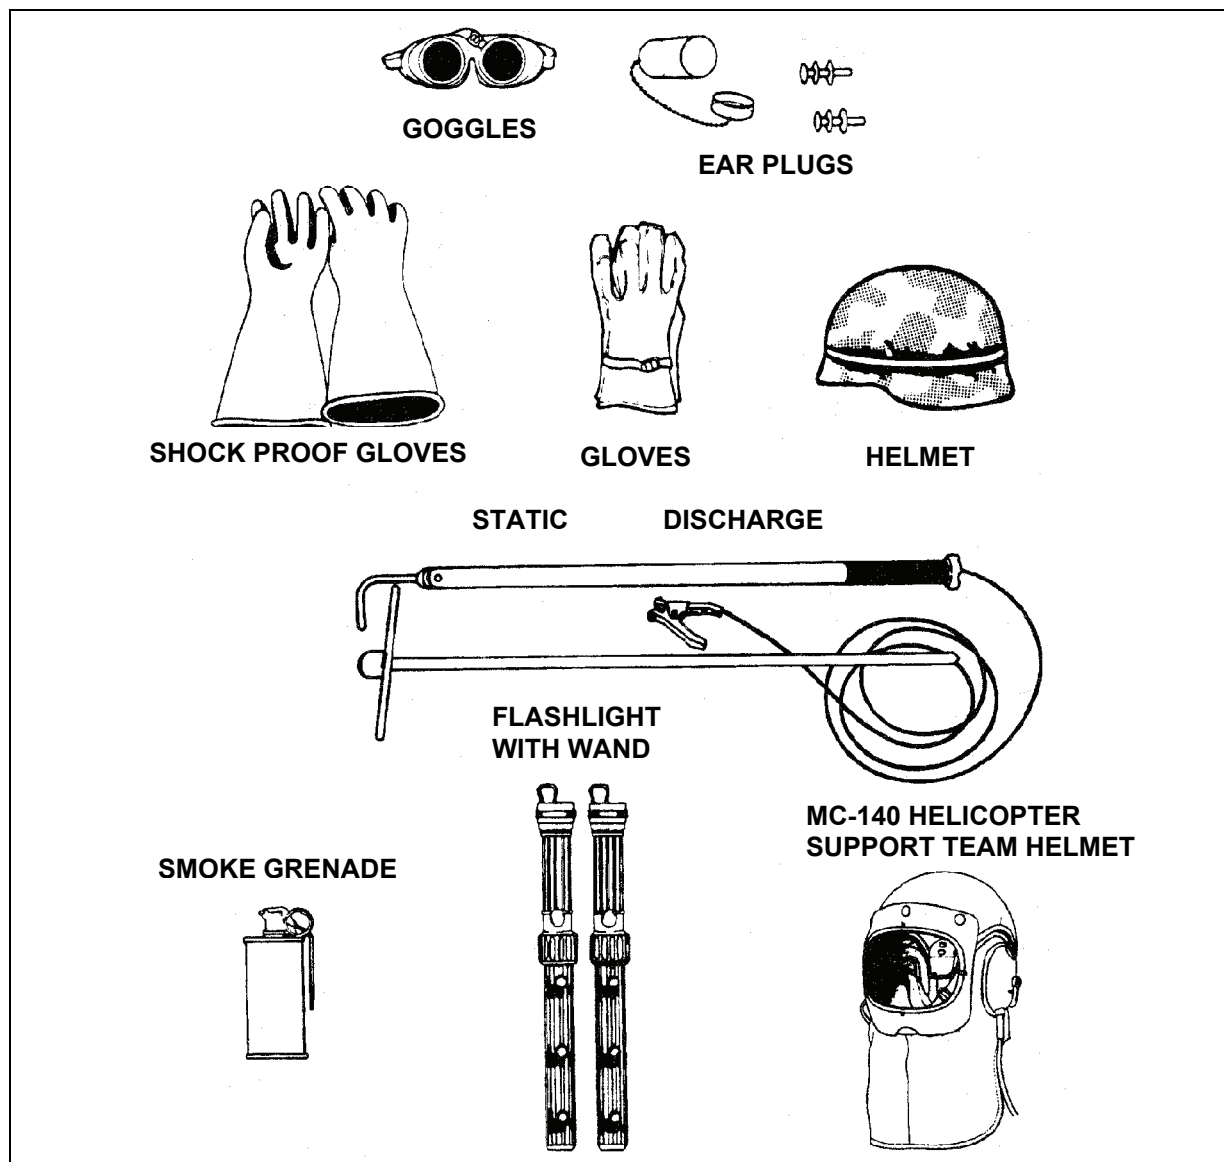

Figure 3-1. Personal Protection Equipment
- **Other Equipment.** The static discharge wand is used to protect the hookup man from static electric shock. Smoke grenades are used to mark the location of the landing site and/or indicate wind direction. Flashlights with wands are used to give hand-and-arm signals at night. Figure 3-1 shows equipment that is normally needed. The equipment national stock numbers (NSN) are listed in appendix B, page B-1.